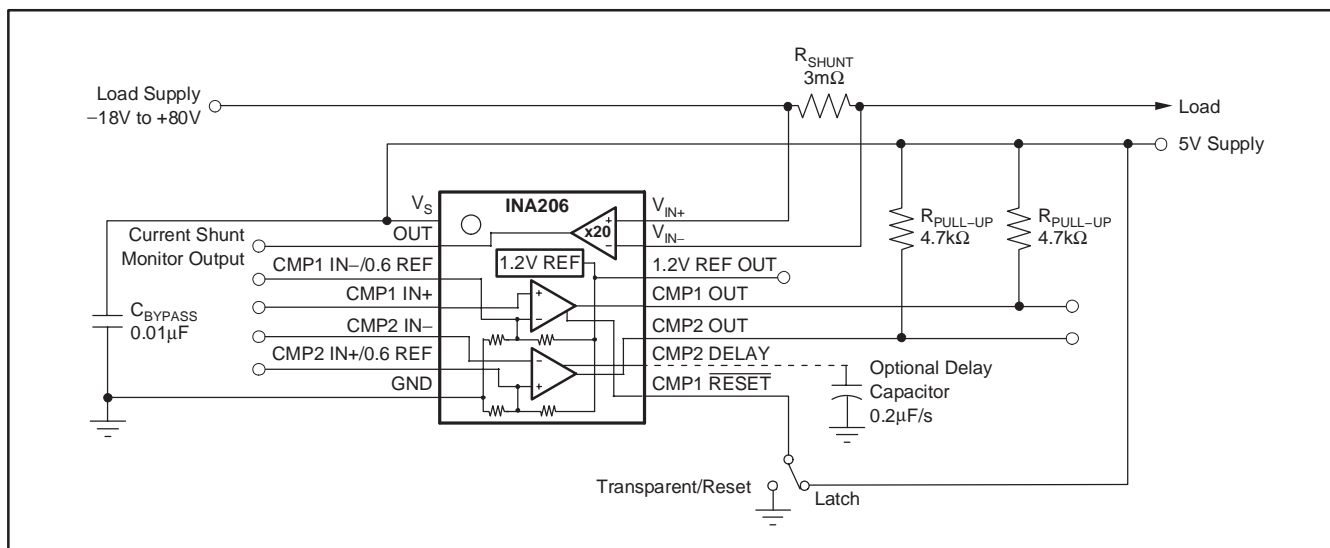

Figure 2. INA20x Basic Connection
Figure 2 shows the basic connection of the INA206, INA207, and INA208. The input pins, V_{IN+} and V_{IN-} , should be connected as closely as possible to the shunt resistor to minimize any resistance in series with the shunt resistance.
The Comparator 2 programmable delay is controlled by a capacitor connected to the CMP2 Delay Pin; see Figure 2. The capacitor value (in μF) is selected by using Equation (4):